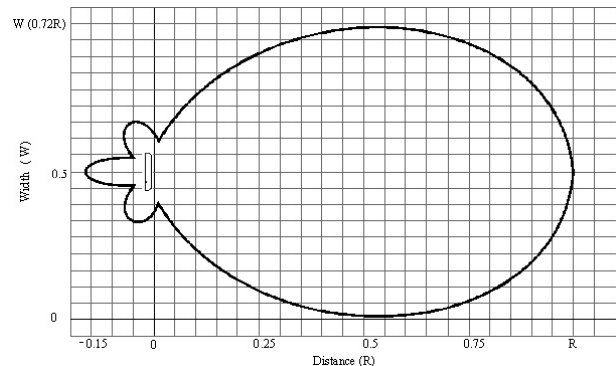

Figure 2. Effective RF Field for LR-2000 Reader
6. Results: Tags should give reads at rate of 2 or 3 reads per second, at distances. See Figure 2 for typical RF field.